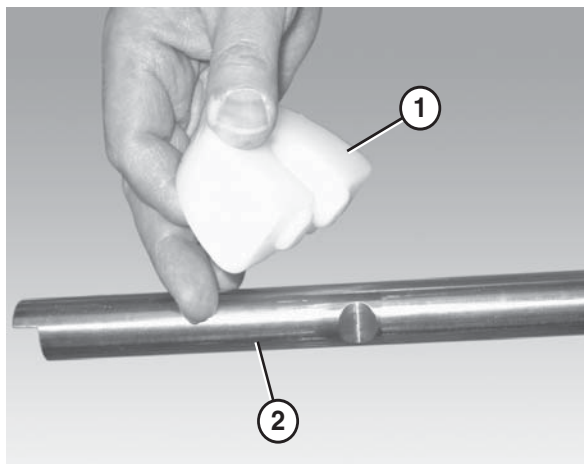

Figure 30
1. Attach the chain return shoes (**Figure 30, item 1**) to the return shaft (**Figure 30, item 2**).